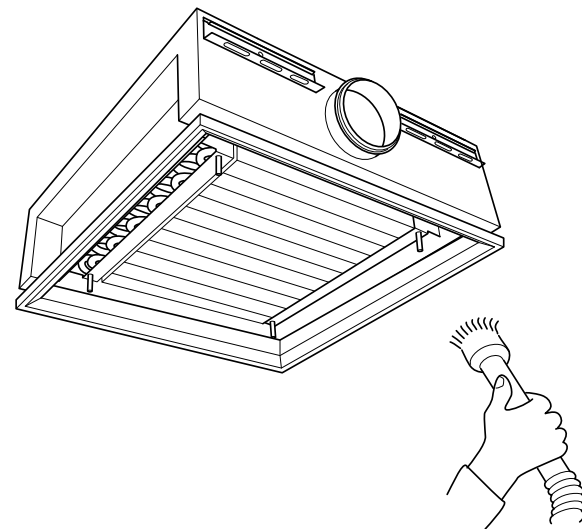

FIGURE 30
- 3) Vacuum the coil with a vacuum brush attachment every 5-10 years, or as needed. (See **FIGURE 30**)